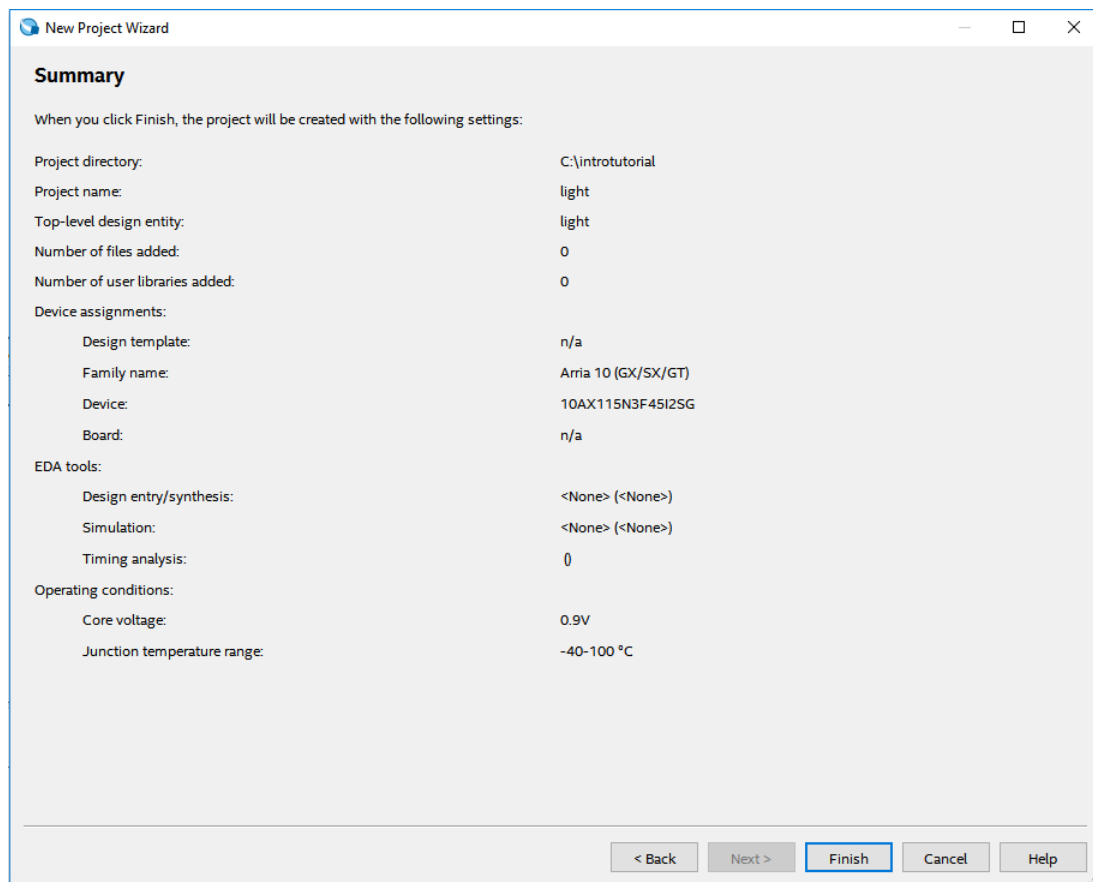
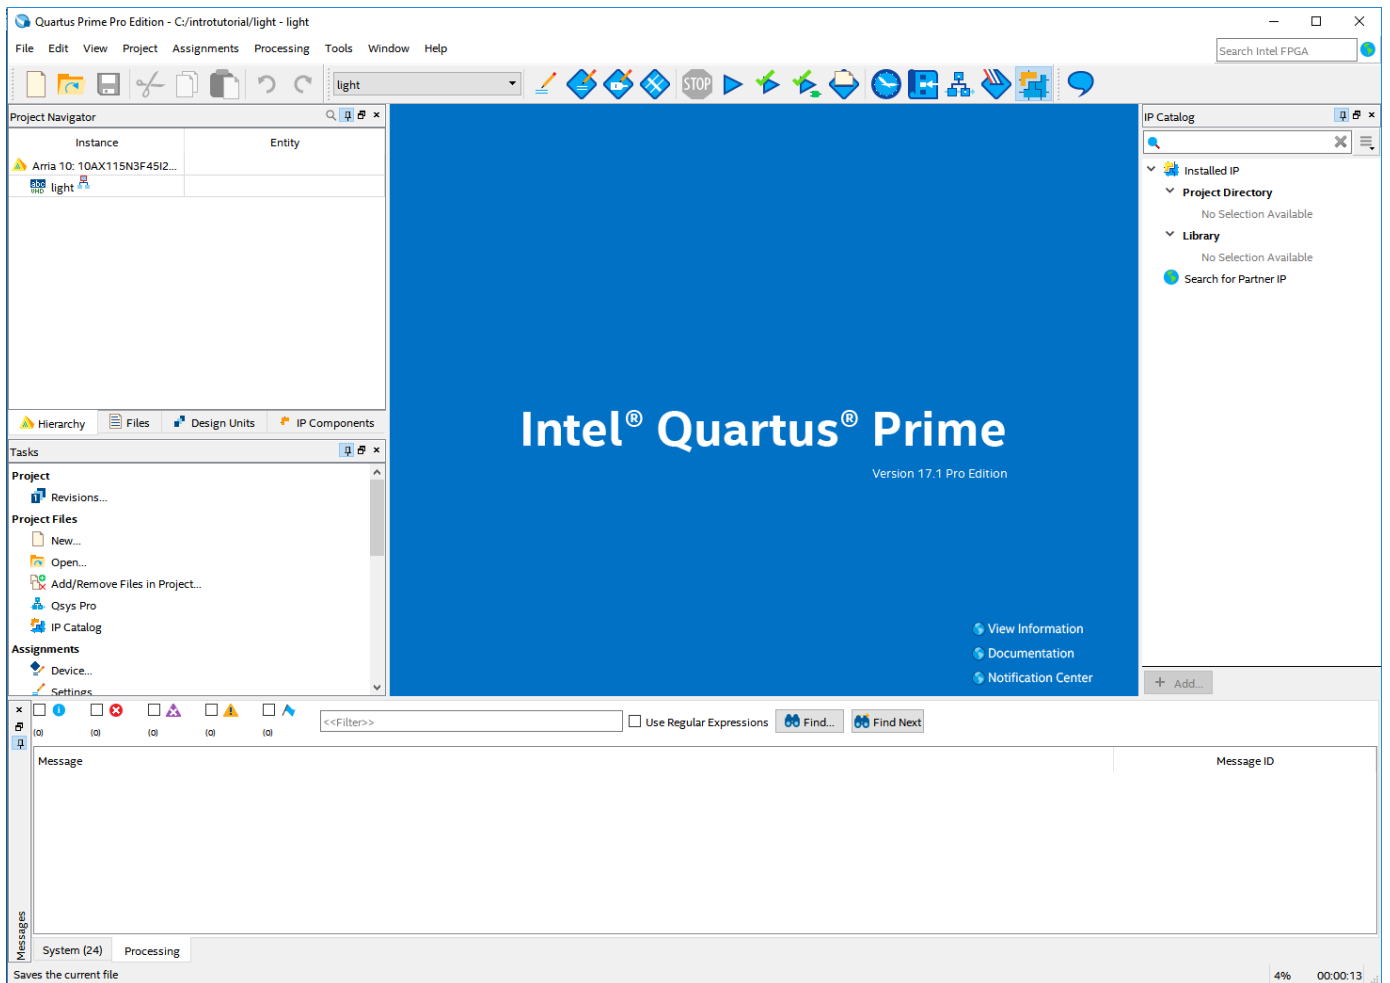

Figure 10. Summary of project settings.
Figure 11. The Quartus Prime window for a created project.
7. A summary of the chosen settings appears in the screen shown in Figure 10. Press **Finish**, which returns to the main Quartus Prime window, but with *light* specified as the new project, in the title bar, as indicated in Figure 11.